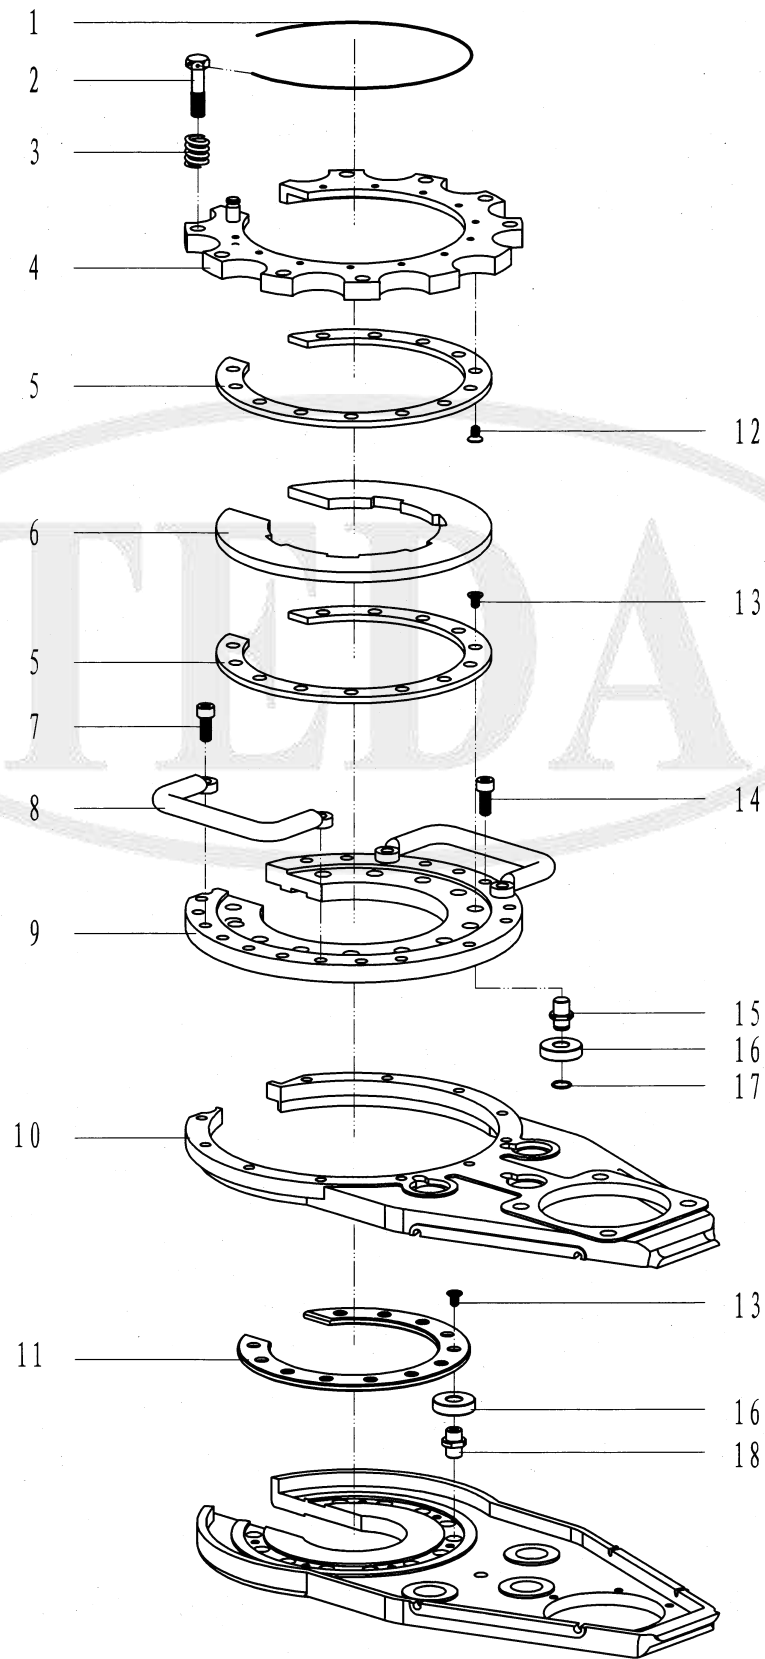

Fig. 7 Braking and centralizing mechanism
9.5 Braking and centralizing mechanism and parts list (Fig.7,Table 5)